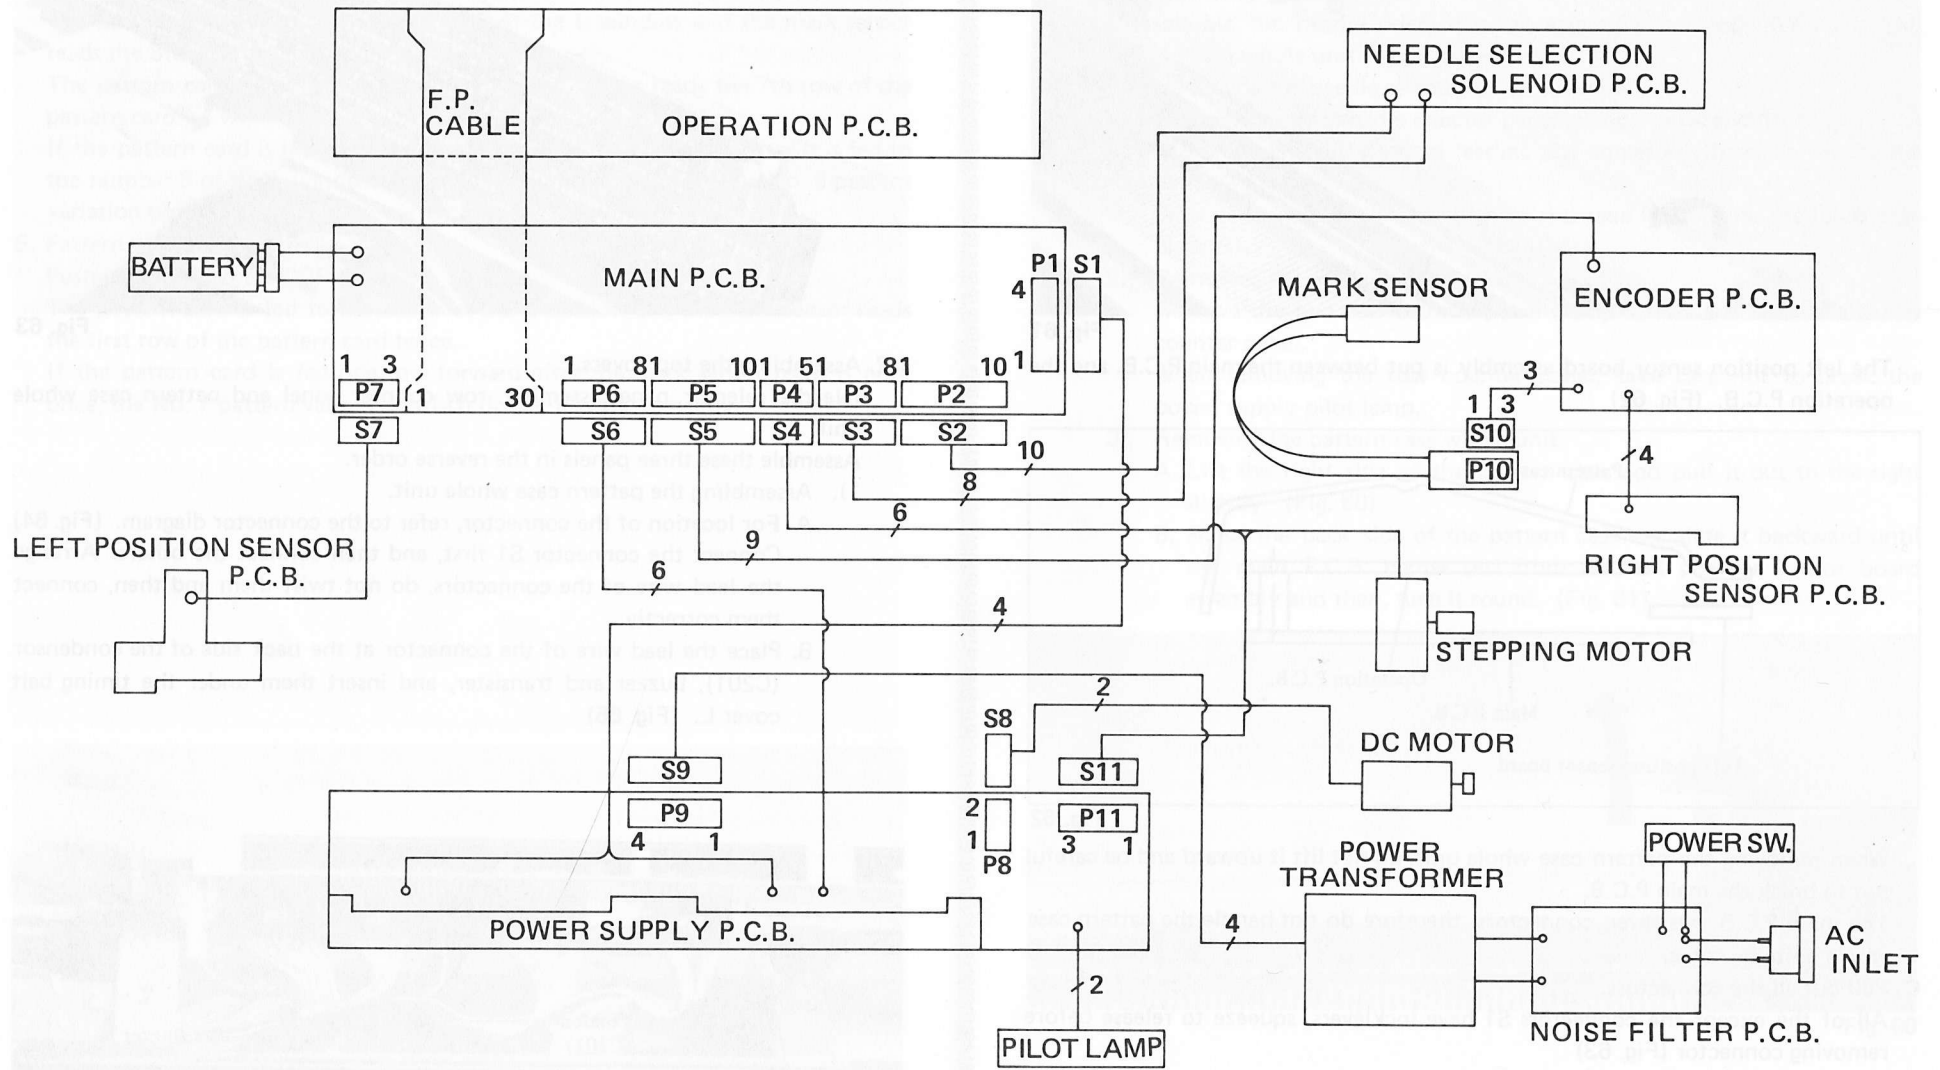

Fig. 64
- A. For location of the connector, refer to the connector diagram. (Fig. 64) Connect the connector S1 first, and then connect the others. Arrange the lead wire of the connectors, do not twist them and then, connect them correctly.